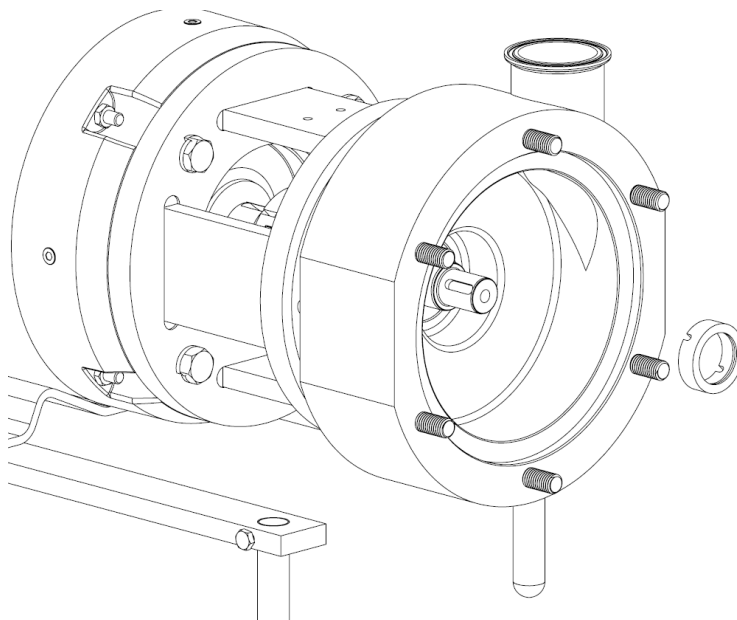

Figure 10
2. Slide the rotating seal over the shaft through the casing as shown in Figure 10.